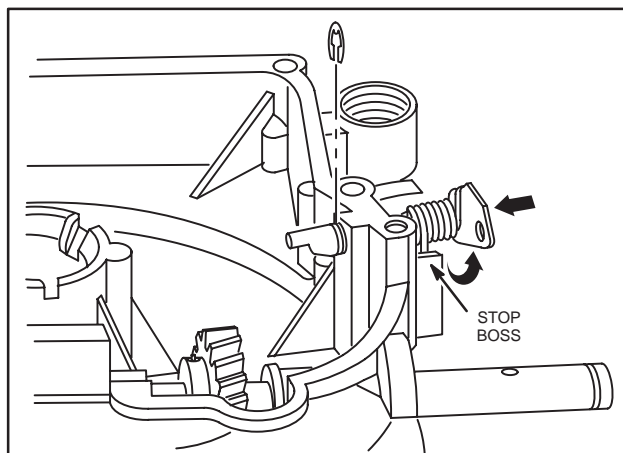

Fig. 165 – LEVER INSTALLATION
4. Slide control lever assembly into shaft bore, Fig. 165, as far as it will go.